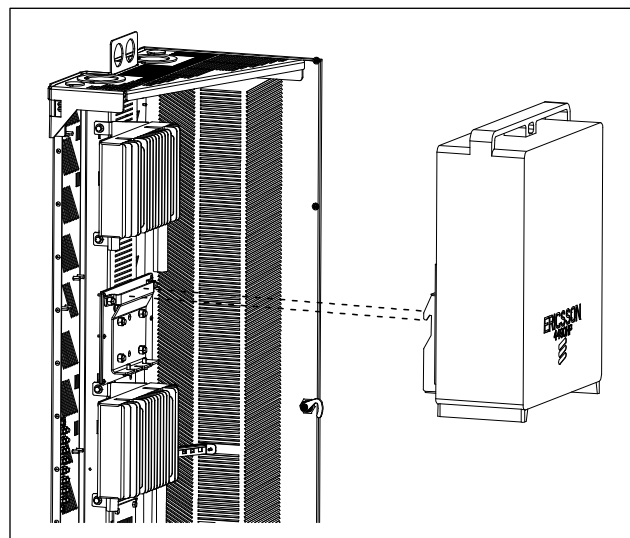

Figure 11 **Mount Upper Radio**
4. Hang the radio/bracket assembly onto the hanging bracket base plate (Figure 11). Secure the hanging brackets from underneath the brackets using the 1/4-20 securing screws underneath.